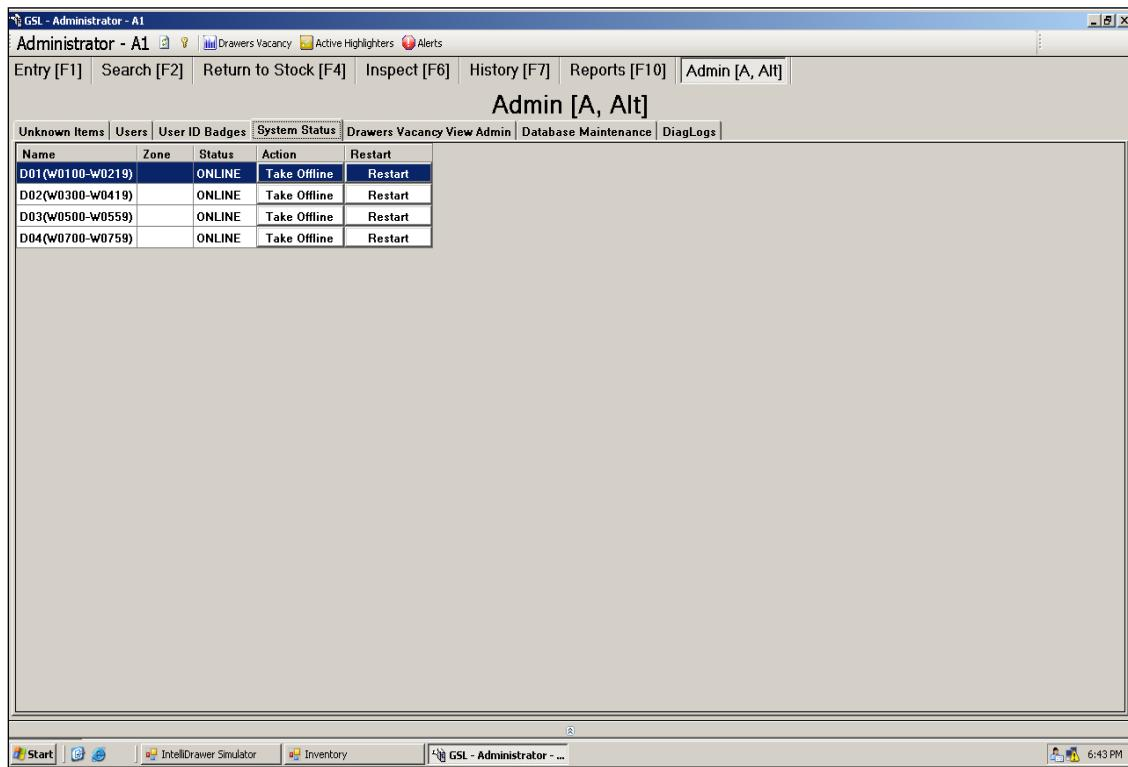

*Figure 61. Administrator – Add SmartBadges screen.*
**9.4.1.** Before a SmartBadge can be used it must be added to the system. Follow these steps to add a SmartBadge to the system (see *Figure 61*):